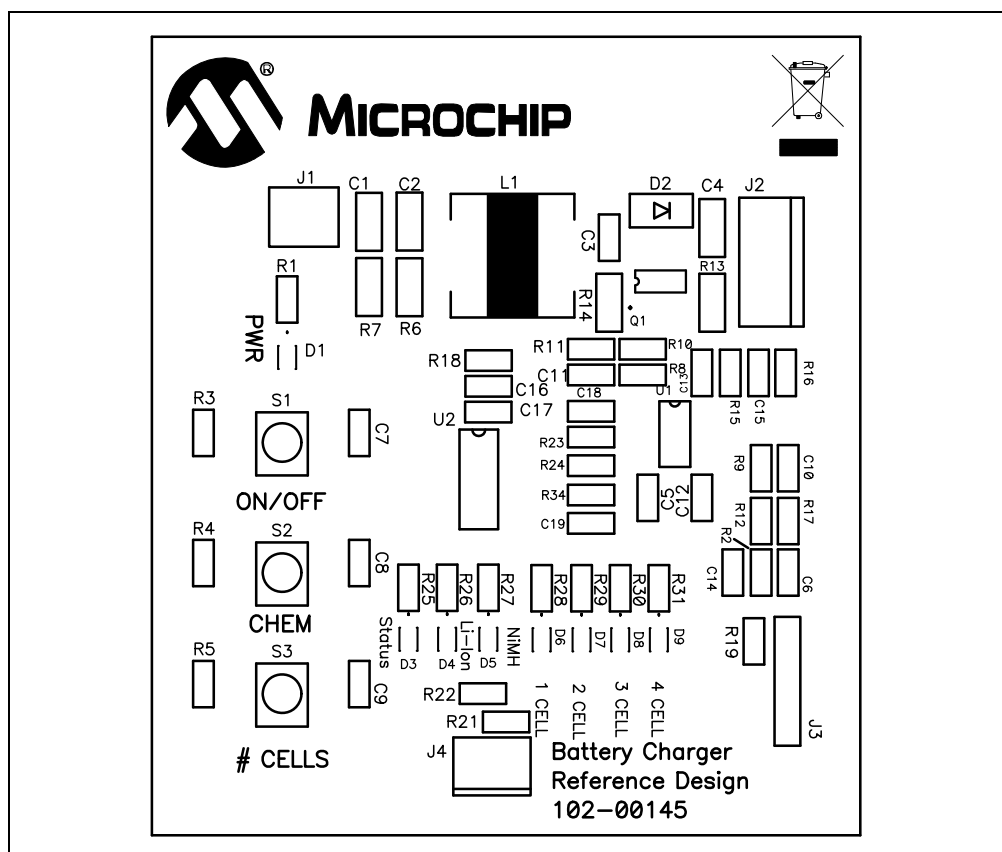

FIGURE 2-3: Setup Configuration Diagram.
2. Connect the positive side of the input source (+) to pin 1 of J1. Connect the negative or return side (-) of the input source to pin 2 of J1. Refer to Figure 2-3.